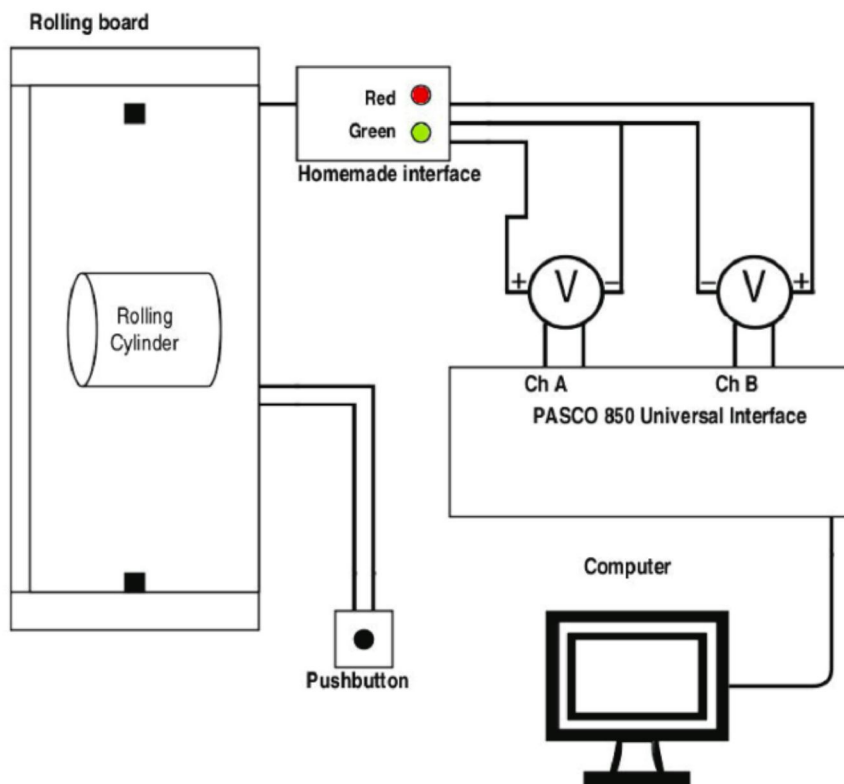

Figure 2) Schematic of the experimental setup
1. Connect components as shown Figure 2. Have a technician or lab demonstrator verify the setup before turning the power on. In particular, verify that Chanel A on the PASCO interface is connected to the green light of the homemade interface and Chanel B is connected to the red one.